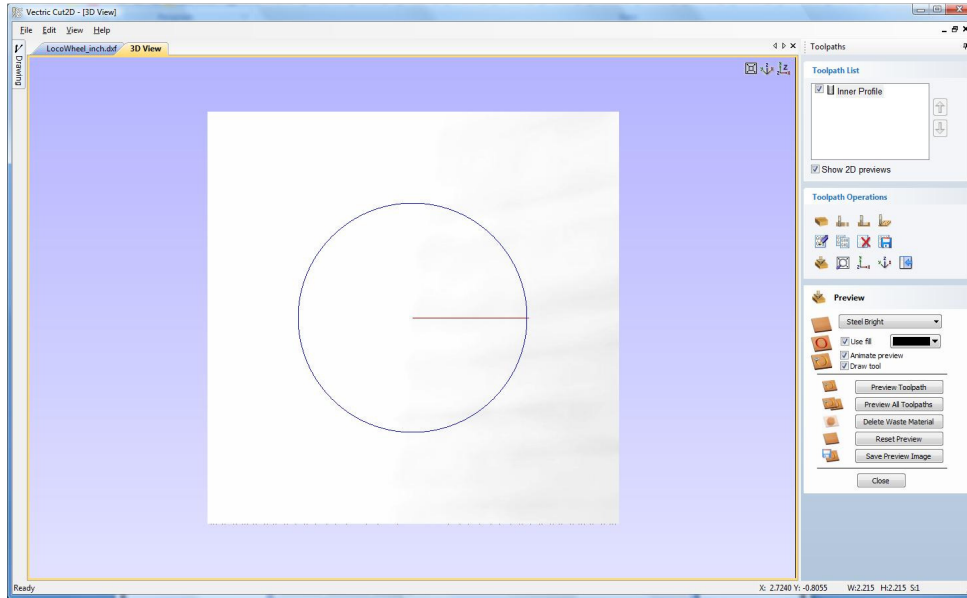

Figure 11. 3D View showing Toolpath & Material
6. Click the **Calculate** button and the resulting toolpath will automatically be drawn in the **3D view** and the **Preview job** form opened, as shown below in Figure 11.